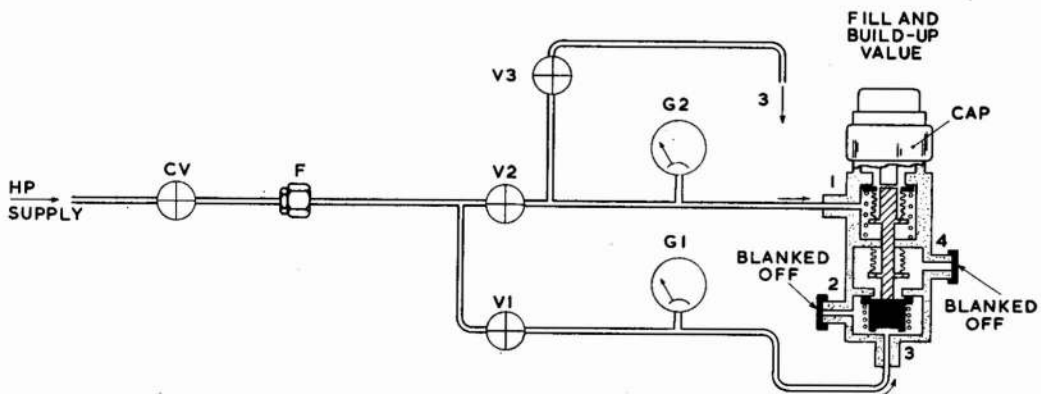

Fig. 3. Test rig, external leakage test
External leakage test (fig. 3)
7. (1) Connect the pressure and leak test rig as shown in fig. 3.